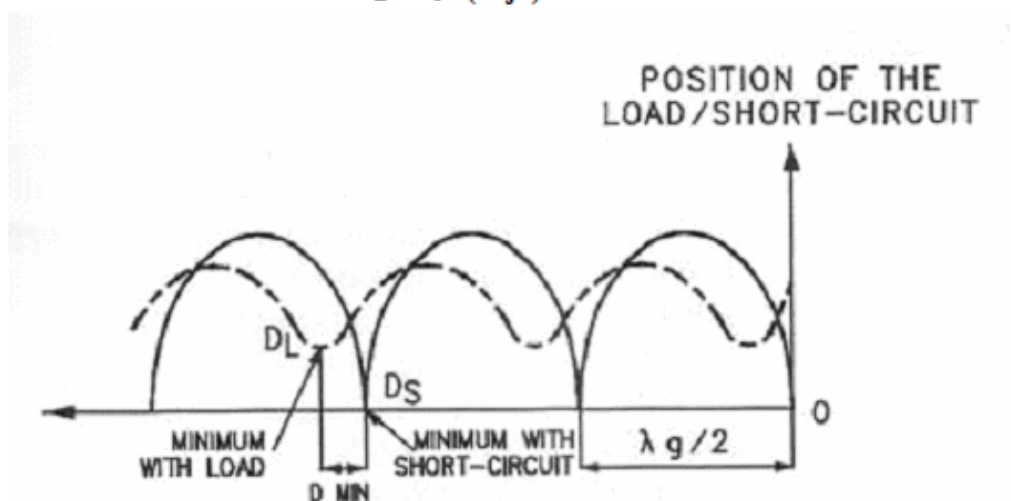
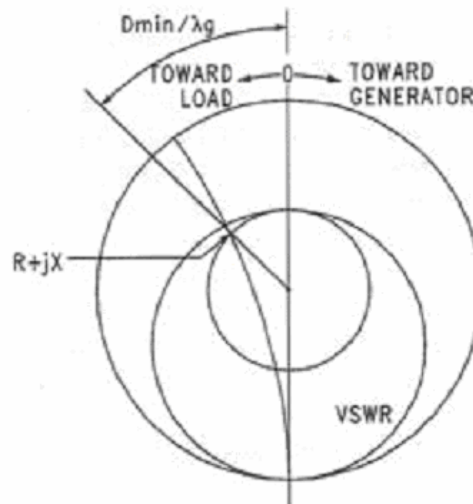

Figure 2
Figure 3
1. Carry out wiring between the units as indicated in *Figure 2*. (Note that the final transition with the coaxial attenuator module MW-23 represent the unknown load that is to be measured).
Calculate the variation of the two minimum values found before expressed in fractions of wave length (see *Figure 2* and *Figure 3*).